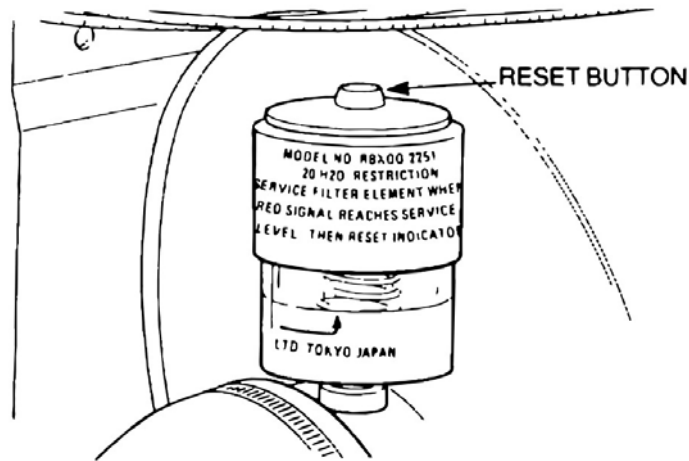

Figure 3 Air Cleaner Service Indicator
**21. Service Indicator.** A service indicator (Figure 3) is incorporated on the air cleaner housing to give a visual indication of air cleaner restriction. When the red float is clearly visible through the window of the indicator, the air cleaner requires servicing. When the air cleaners have been serviced, the service indicator can be reset by pressing the button on the top of the indicator.